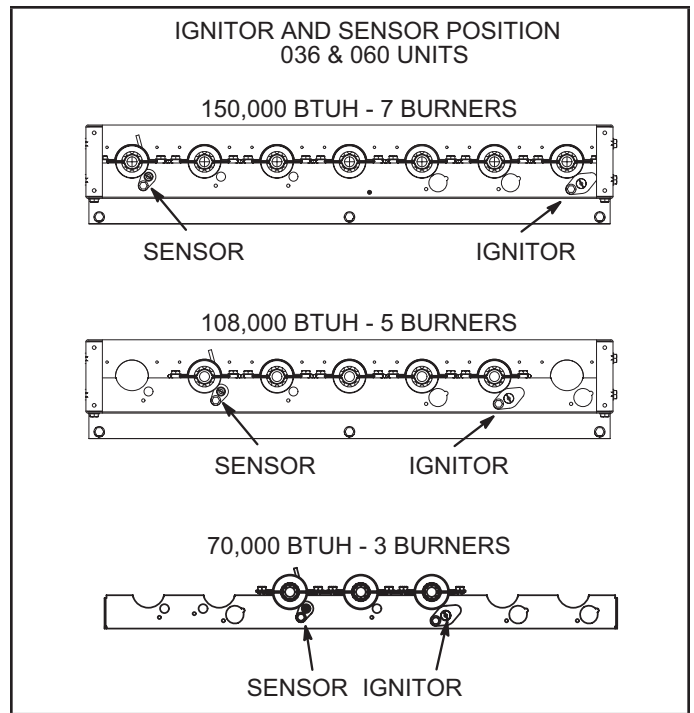
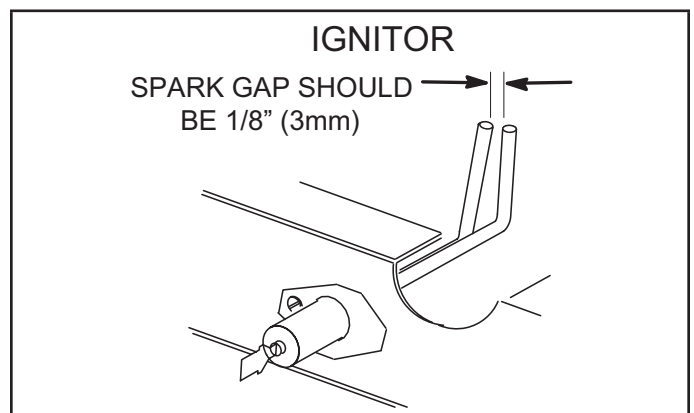
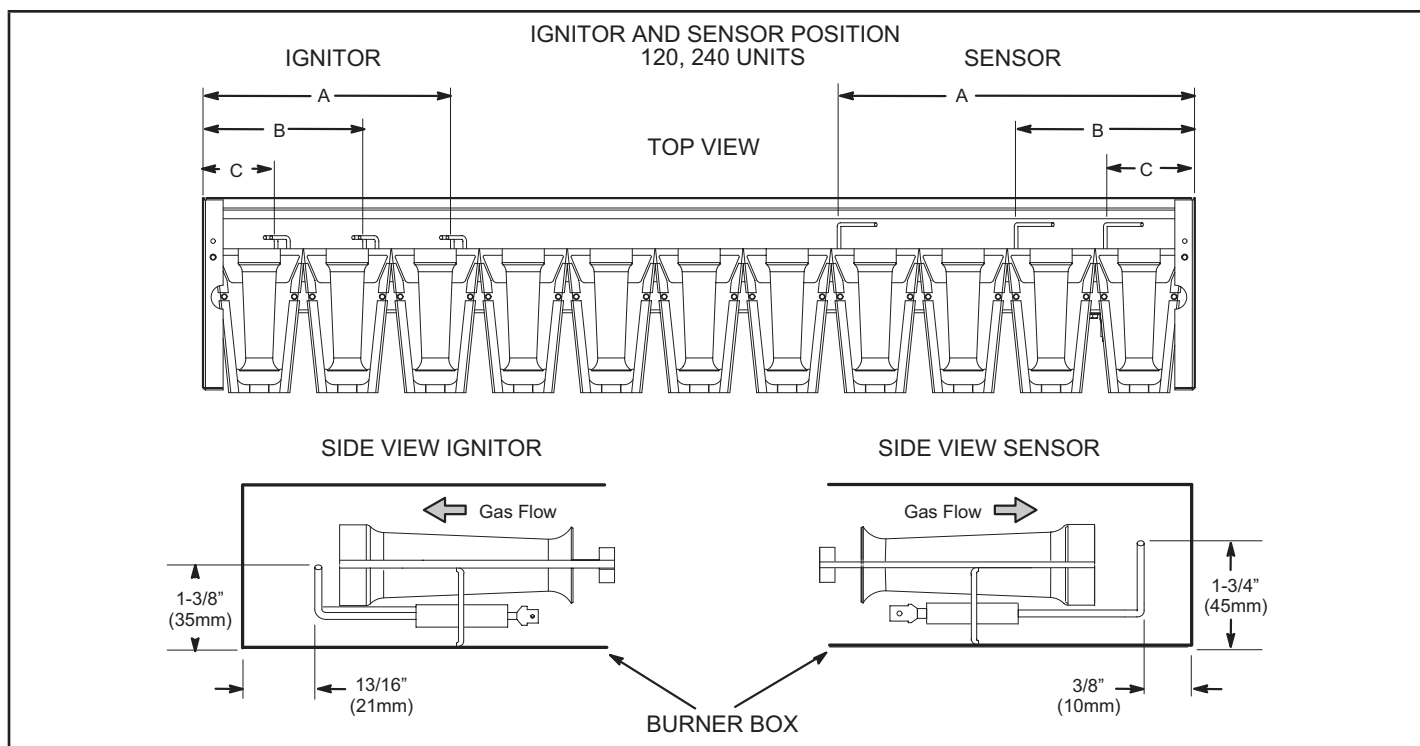

FIGURE 60
FIGURE 61
FIGURE 62
- 5 - Locate the ignitor under the right burner for 036 and 060 units. See FIGURE 60. Locate the ignitor under the left burner for 120 and 240 units. See FIGURE 62 and TABLE 27. Use appropriately sized twist drills or feeler gauges to check the spark gap as shown in FIGURE 61.